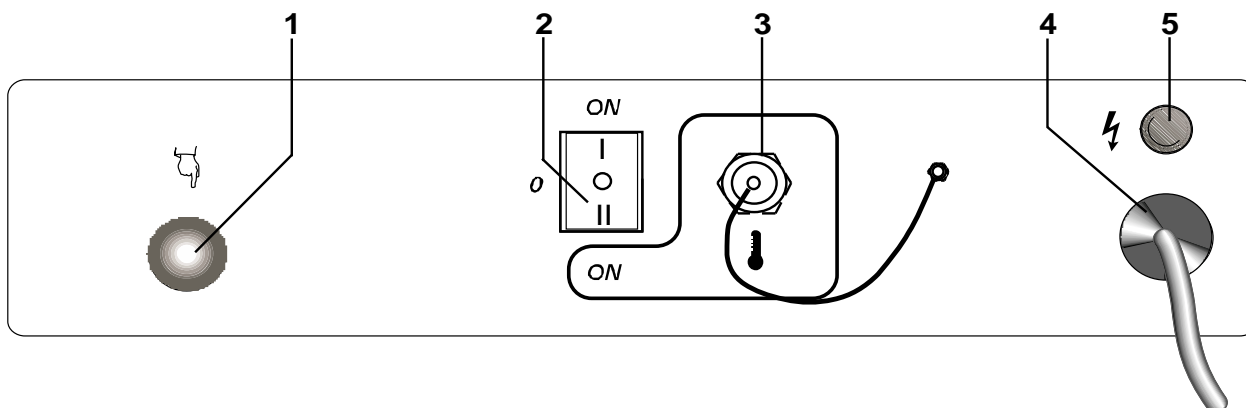

Figure 4-1 - Control Panel Layout
- **Flame Detector Safety Shut-off Switch:** In case of the flame extinguishing, the safety shut-off switch will cut in and stop the heater; at the same time the reset button will illuminate (See Figure 4-1, Item #1).
Operation of the D-1000B heater requires the usage of the control panel shown in Figure 4.1